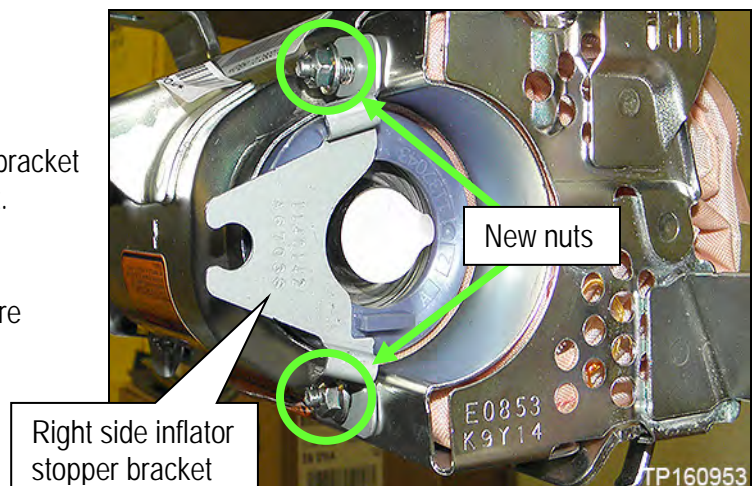

Figure 49
42. Install the **new** right side inflator stopper bracket (shown in Figure 49) with nuts finger tight.